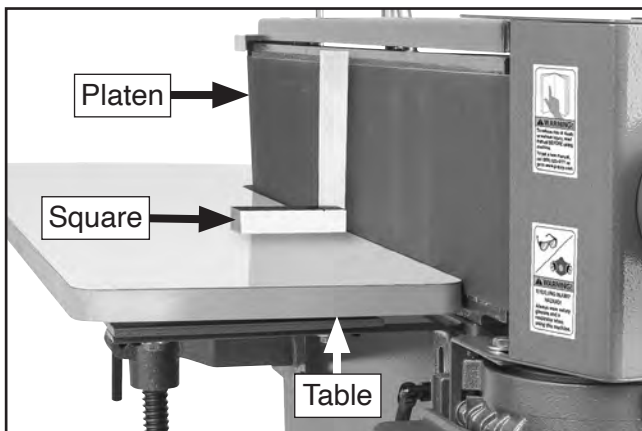

Figure 27. Square against table and platen.
- Place square against front center of table and platen (see **Figure 27**).